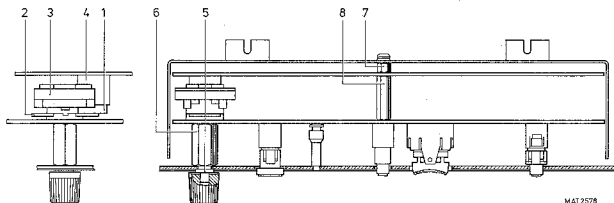

Figure 15.6 Mechanical parts front unit.
15.1.4 Internal mechanical parts for front unit (figure 15.6)